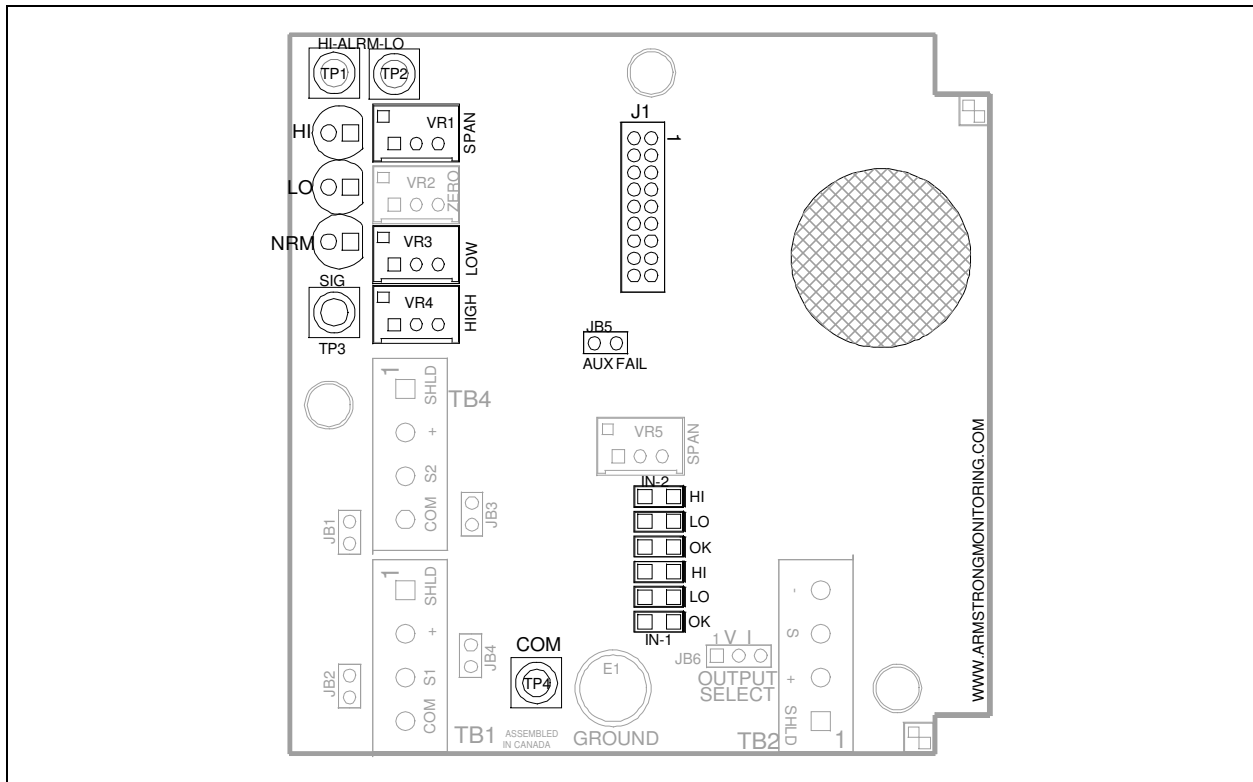

FIGURE 5: Span and alarm adjustment.
1. Signal is measured from TP4 (COM) to TP3 (SIG) (see Figure 5 for location).
Alarm Adjustment can be made with the corresponding High (VR4) or Low (VR3) Trimmer. Adjust the corresponding Alarm Voltage to the appropriate fraction of full-scale gas concentration. Alarm Voltage can be measured from TP4 (COM) to Low test point (TP2) and High test point (TP1). (see Figure 5 for location).